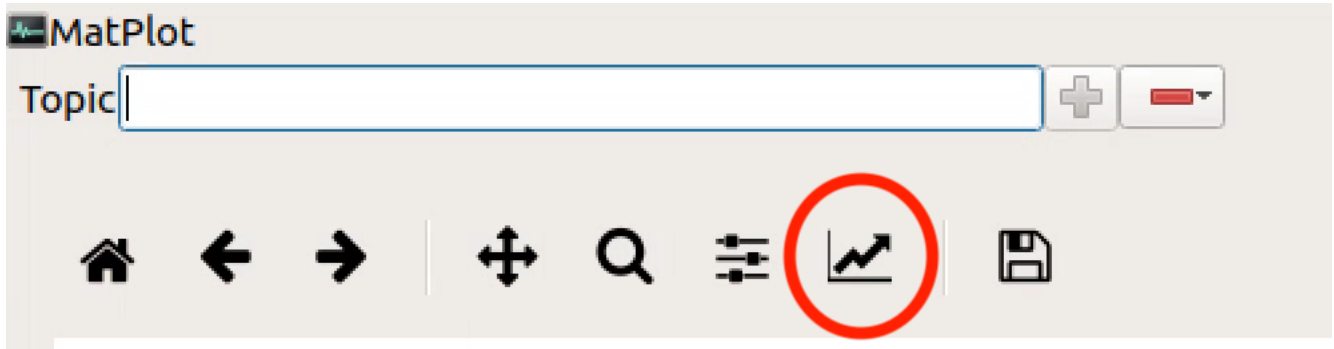

Figure 5: "Edit axis" button in Gazebo environment
- Click the "Edit axis" button (refer to Figure 5) and set both X-axes and Y-axes to present the chart clearly. For a start, you can set X-axes between 0 and 60, and Y-axes between -10 to 10.